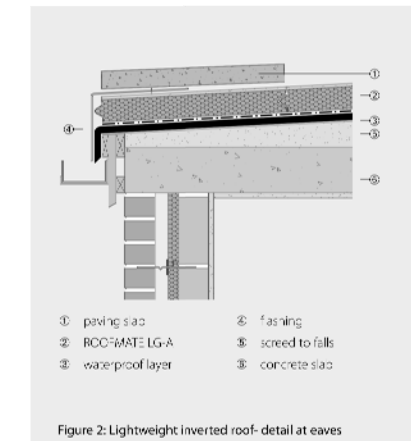

Figure 2: Lightweight inverted roof detail at eaves
- »»» **parapets and roof kerbs:** ROOFMATE LG-A boards must be protected from wind blowing directly underneath the boards: kerbs should extend at least 50mm above the top of the boards. On roofs with low wind exposure ROOFMATE LG-A boards may be laid to drain directly into an edge gully: protect the board edge with a cover flashing (Figure 2)